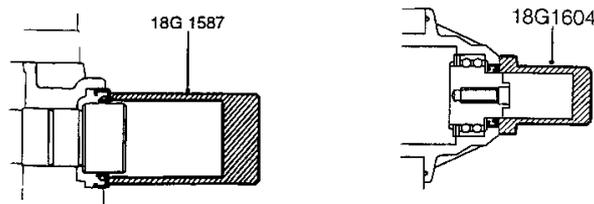

Figure 28
- Apply continuous, thin beads of sealant, (Hylomar 2000), to the paths on the cylinder head as shown in figure 28, then spread to an even film using a brush or roller.
- Invert the carrier assembly and fit to cylinder head, screwing in the 32 bolts, (4 long bolts at each end of carrier), then using the sequence shown in figure 28, progressively tighten bolts to 10Nm.